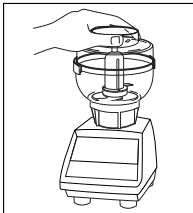

FIGURE 4
- ALWAYS HOLD FOOD PROCESSOR FIRMLY WITH ONE HAND WHEN STARTING UNIT AND WHEN PROCESSING.** (*Figure 4*)
- Always wait for the S Blade to stop spinning before removing the Cover from the Processor Bowl. (*Figure 4*)